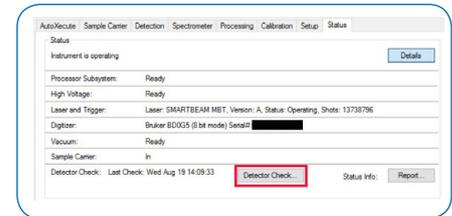

Figure 4.6 Clicking on the Detector Check in the Status Tab
- Go to the “Status” tab (see Figure 4.6)
- Click on “Detector Check” (see Figure 4.6)